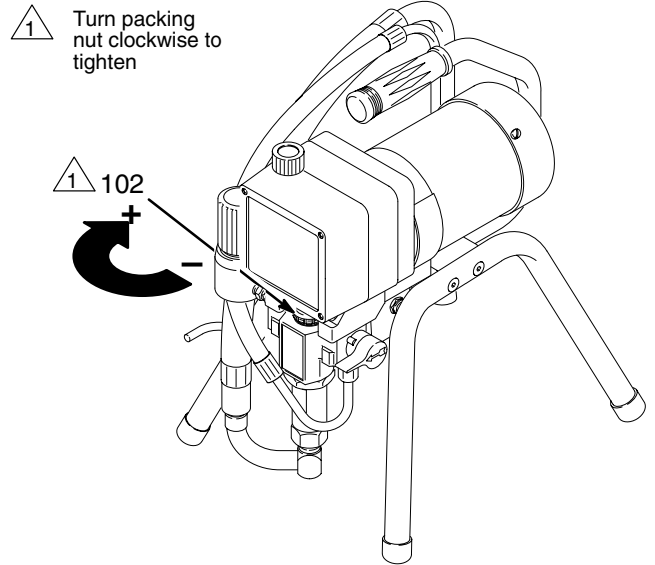

Fig. 8
1. **Check the packing nut/wet-cup daily (102).** **Relieve the pressure** and unplug the sprayer. Keep the wet-cup 1/3 full of TSL at all times to help prevent fluid buildup on the piston rod and premature wear of packings.
2. **Tighten the packing nut/wet-cup (102) just enough to stop leakage.** Over-tightening causes binding and excessive packing wear. Use a round punch or brass rod and a light hammer to adjust the nut. See Fig. 8.
4. **Periodically clean paint residue from the pressure transducer (29) vent hole area.** See Fig. 8. Replace the transducer when leakage is excessive. See page 29.